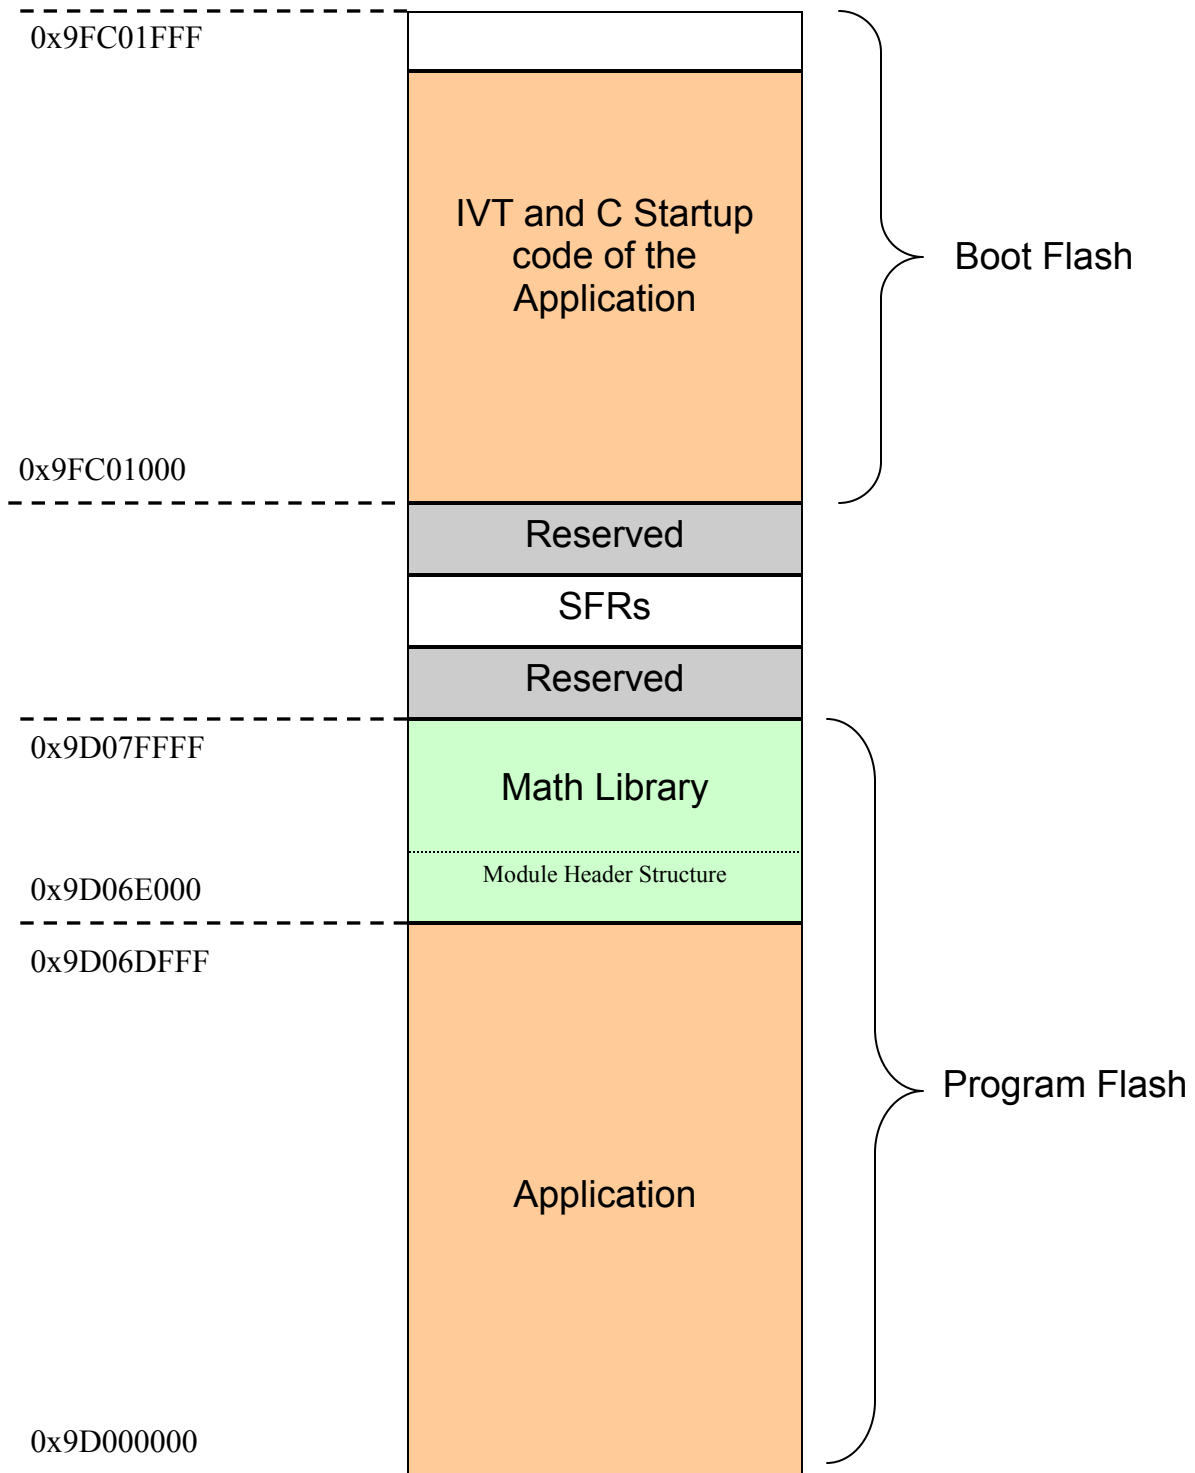

Figure 3.1: Application and Library mapping
The library is mapped in the program flash address region from 0x9D06E000 to 0x9D07FFFF. The application occupies the remaining portion of the memory region as shown in Figure 3.1.
- The library address is the address location of the “Library Module Header”. Refer **Figure3.1: Application and Library Mapping** in step 1. The Module Header is placed at address `0x9D06E000`.